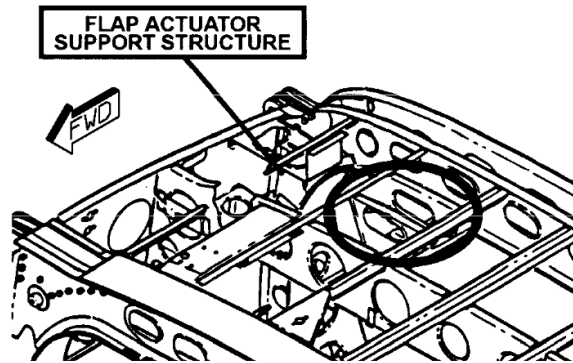
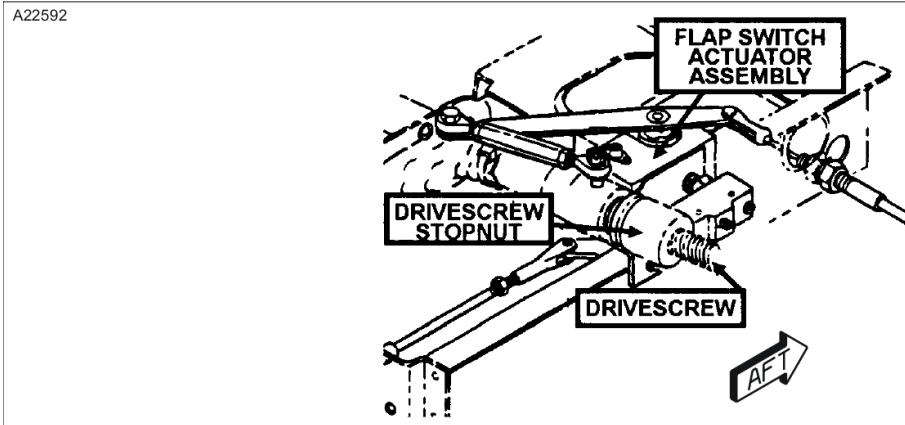

Figure 504
Figure 505
- (2) Inspect flap actuator support structure for cracks, deformation, or other signs of distress. (Refer to Figure 504)
- (3) Check flap actuator drivescrew threads for cleanliness and lubrication. If required, clean and lubricate with #10 weight non-detergent oil. (Refer to Figure 505)
- (4) Inspect flap switch actuator assembly, and associated linkage for indications of binding, wear, interference, or other signs of distress. (Refer to Figure 505)
- (3) Lower flaps to 10 degrees, then raise to UP, while observing flap actuator support structure for deflection caused by preload. Also, listen and watch for indications of the drivescrew stopnut bottoming out at the end of the drivescrew, indicated by an abrupt stop. Transmission support structure must not deflect, and drivescrew stopnut must not bottom out at the end of the drivescrew in the UP position. (Refer to Figure 504 and Figure 505).